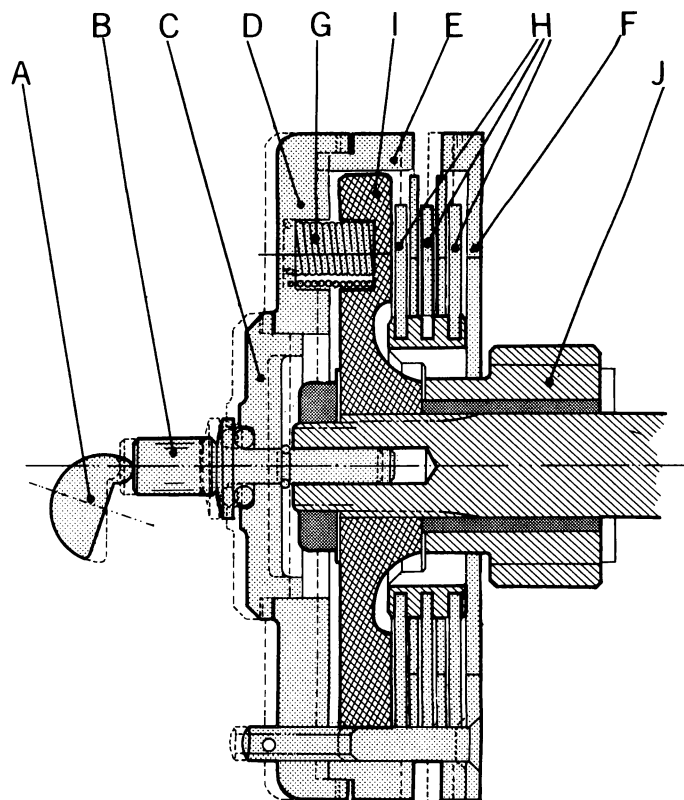

Fig. 17-11 Cross section of cam-type clutch release mechanism, showing disengaged clutch. Dashed lines show engaged position. (Pabatco)
Some manufacturers use a cam-type clutch release. In this type the clutch cable attaches to a lever on the outside of the clutch cover. Figure 17-11 shows how a cam and lever system operates. Pulling the clutch handlebar lever causes the clutch lever to rotate in the clutch cover. Note that as cam lever (A) turns, it pushes the clutch pressure piece (B), clutch disc (C), clutch cover (D), clutch cage (E), and cage cover (F) toward the engine. This action compresses the clutch springs (G) and relieves tension from the friction discs (H), allowing the clutch hub to rotate freely.